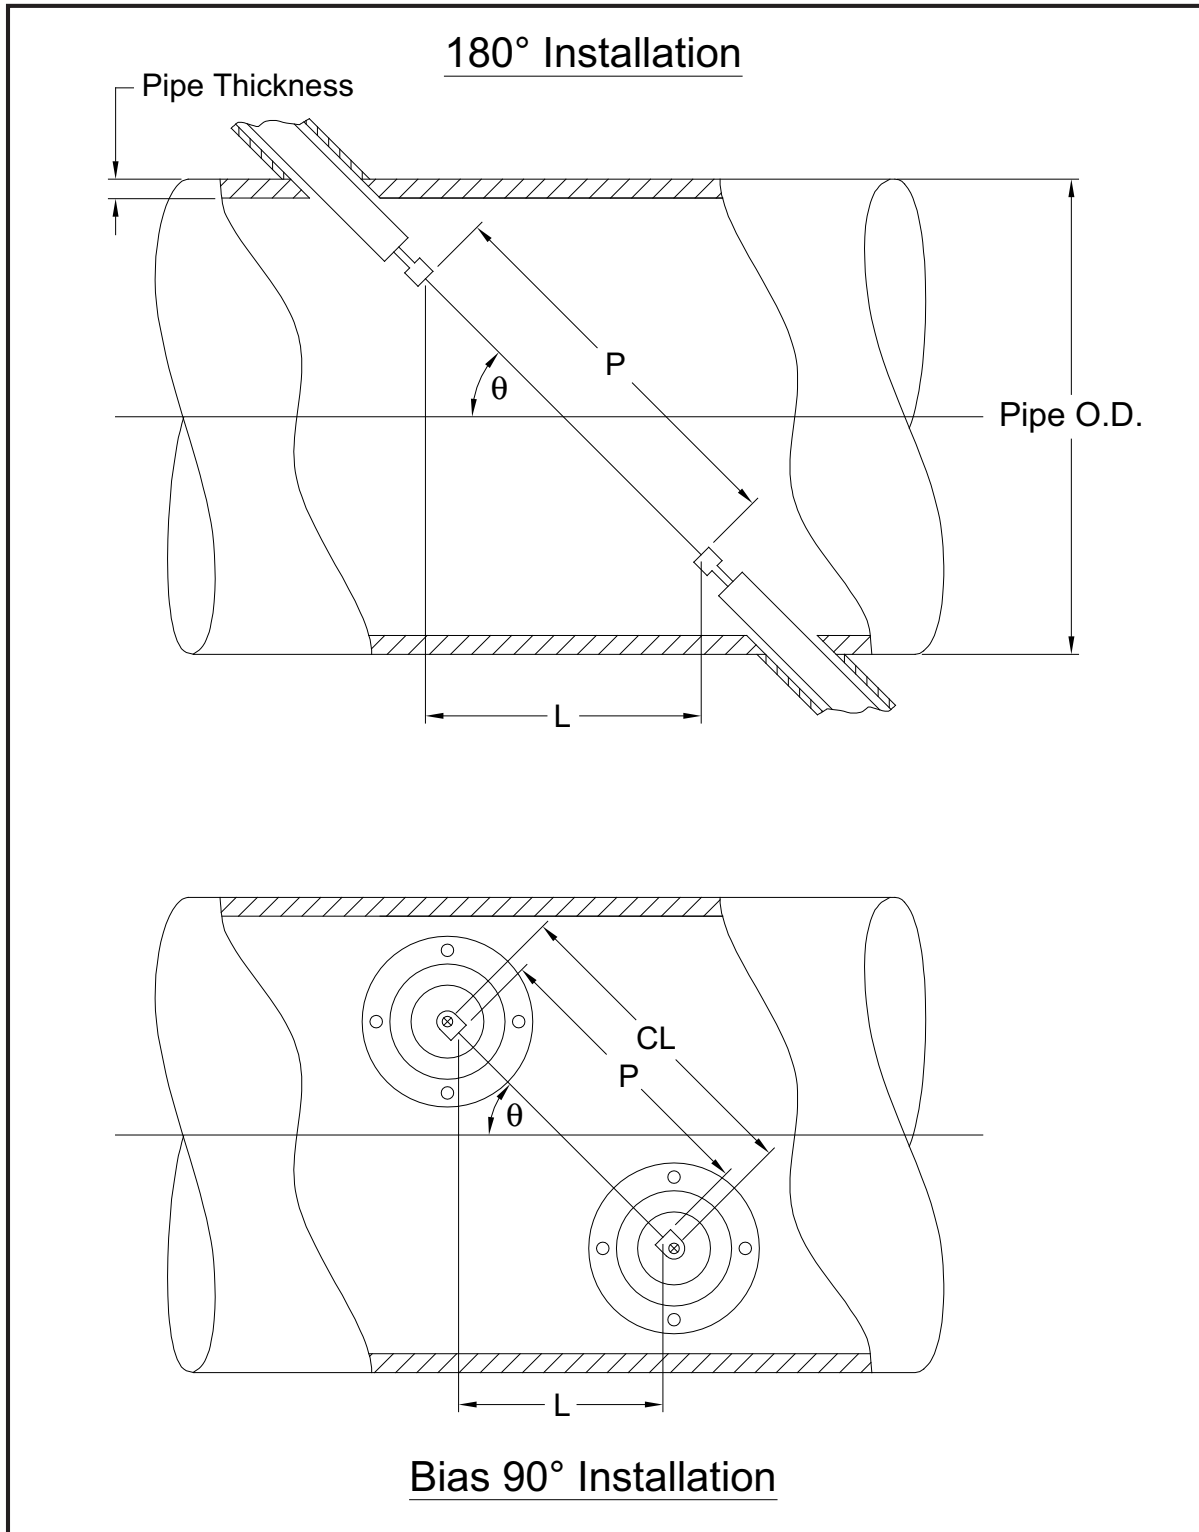

Figure 20: Top View of Typical Transducer Installations
The accuracy of the programmed P and L values is critical to precise flow rate measurements. If GE supplies the flowcell for the system, the correct values will be included in the documentation supplied with the system. For transducers installed on an existing pipe (see Figure 20 on page 68), P and L must be measured at the site. This appendix provides instructions for properly determining these dimensions.
Whenever possible, physically measure the face-to-face distance (P) and the axial distance (L) between the centers of the flat faces of the transducers. Refer to *Figure 20 on page 68* for an illustration of the proper distances to measure, in a typical installation.
With a Bias 90° transducer installation, it sometimes happens that the only known parameters are the transducer angle (θ) and the centerline distance between the transducer bodies (CL). In these cases, it is still possible to calculate P and L by combining *Equation C-1* above with the additional *Equation C-2* below (see *Figure 20 on page 68*):